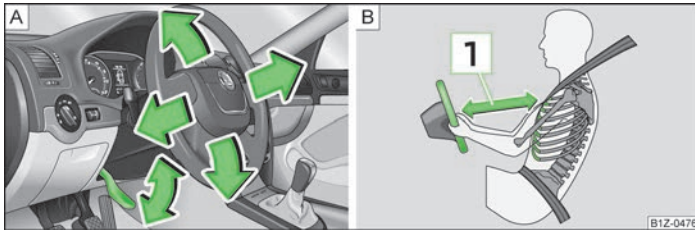

Fig. 93 Adjustable steering wheel: Lever below the steering wheel/safe distance to the steering wheel
- Maintain a distance of 25 cm **1** to the steering wheel » Fig. 93 on page 92 - **2**. Not maintaining this minimum distance will mean that the airbag system will not be able to properly protect you - hazard!
- Pull the lever below the steering wheel down » Fig. 93 - A.